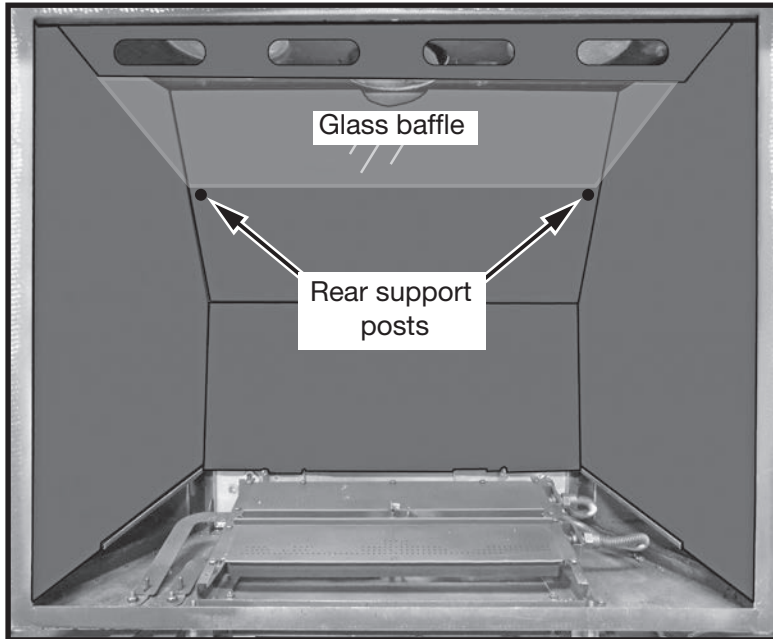
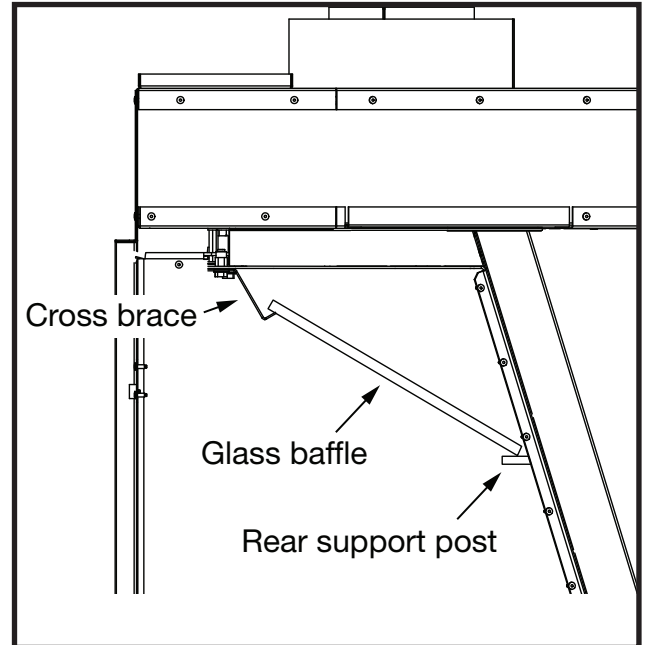

Figure 57: Glass baffle installation.
Figure 58: Glass baffle installation side view.
1. With the interior panels and the cross brace installed, insert the wide end of the glass baffle up in behind the cross brace far enough that the narrow end can be seated on top of the rear support posts (Figure 57 and Figure 58). Lower the wide end at the top and let it rest on the cross brace (Figure 58).